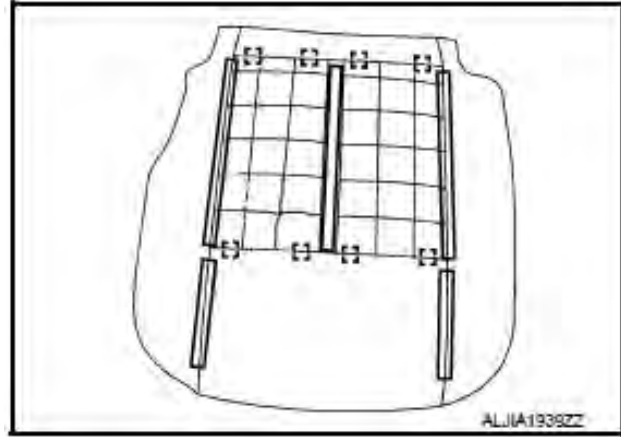

Figure 29
- Seat trim is secured to seat cushion using 8 hog rings and 5 Velcro strips (see Figures 29, 30 and 31).